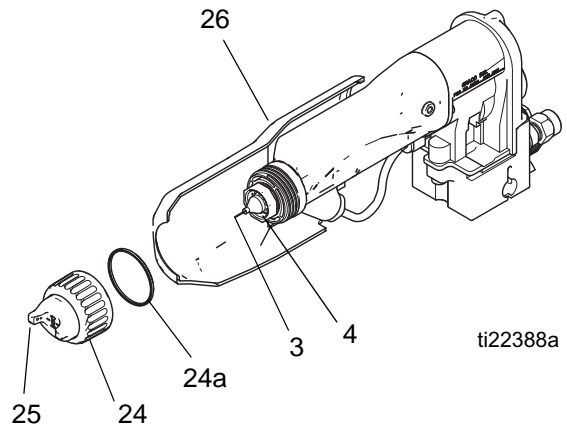

FIG. 19. Clean Air Cap and Fluid Nozzle
3. Remove the air cap assembly (24, 25) and shroud (26). See FIGURE 19.
4. Wipe the fluid nozzle (4), shroud (26), and exterior of the gun clean with a cloth dampened in solvent. Avoid getting any solvent into the air passages. Whenever possible, point the gun down when cleaning it.
5. If it appears that there is paint inside the fluid nozzle (4) air passages, remove the gun from the line for servicing. See **Air Cap/Nozzle Replacement**, page 42 to remove the fluid nozzle for cleaning or replacement.
6. Clean the air cap (25) with the soft bristle brush and solvent or submerge the air cap in suitable solvent and wipe it clean. Do not use metal tools.
7. Slide the shroud (26) onto the gun.
8. Carefully install the air cap (25). Be sure to insert the electrode (3) through the center hole of the air cap. Rotate the air cap to the desired position.
9. Make sure the u-cup (24a) is in place on the retaining ring (1). The lips must face forward. Tighten the retaining ring until the air cap is held firmly in place; you should not be able to rotate the air cap horns by hand.